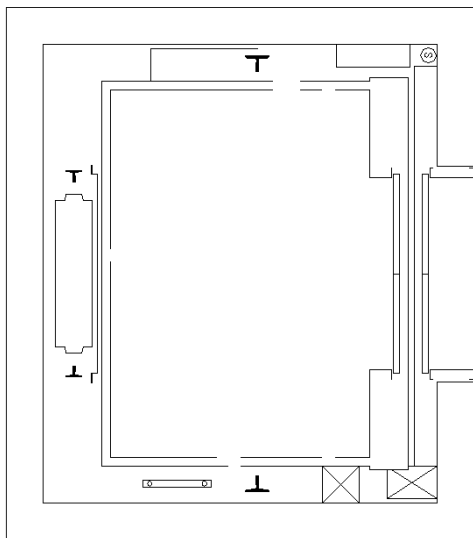

FIGURE 4-3.6 Elevator drawing
13. Click on all the text, dimensions and centerlines until the drawing looks like Figure 4-3.6.